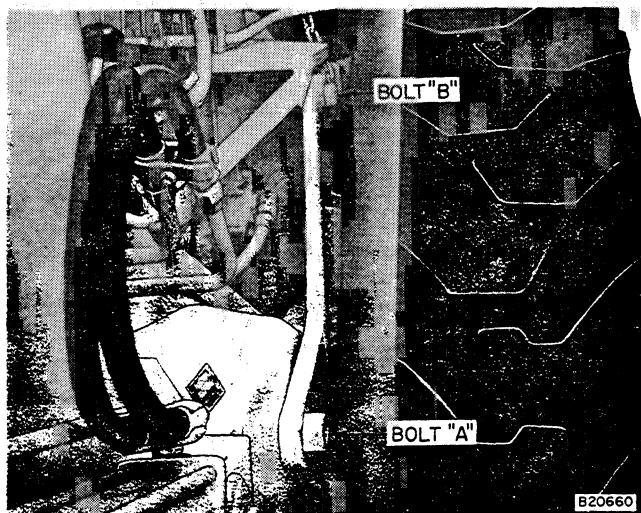

Figure 26 - Bolts to be Removed
3. REFERRING TO FIGURE 26: Remove bolts "A" and loosen bolts "B".
Refer to Figures 26, 27, 28, 29, and 30.
5. Line up bolt holes on the Loader frame and Backhoe braces. Insert bolts "A", then tighten bolts "A" and "B", see Figure 26.